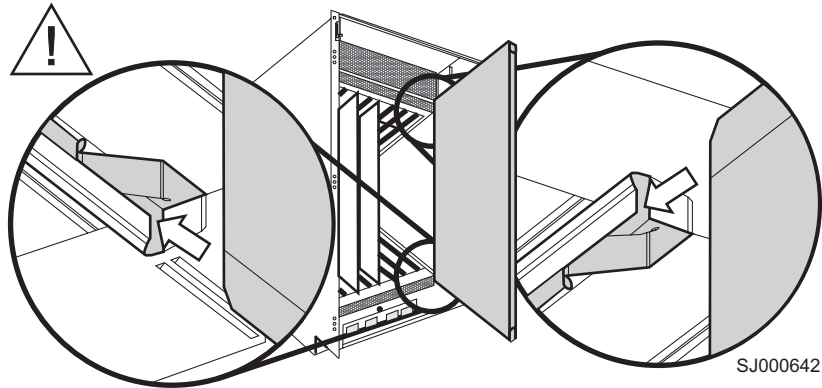

Figure 38. Alignment guides in the card slots
Figure 38 on page 70 shows the alignment guides in the card slots.
2. Align the flat-metal side of the CP card or filler panel inside the upper and lower rail guides in the slot. See Figure 38. Slide the CP card or filler panel into the slot until it is firmly seated.